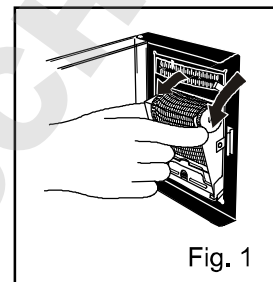

Fig. 1
This unit is provided a nickel-metal hydride battery for the power failure alarm. The battery is located in the control box inside the LED cover. (Fig. 1)
2. As shown in the Fig. 1, remove 2 fixing screw A at the front lower of the LED cover with a screw driver.
1. Open the door and let down the pen holder lever; the pen point is apart from the chart. (Fig. 1)